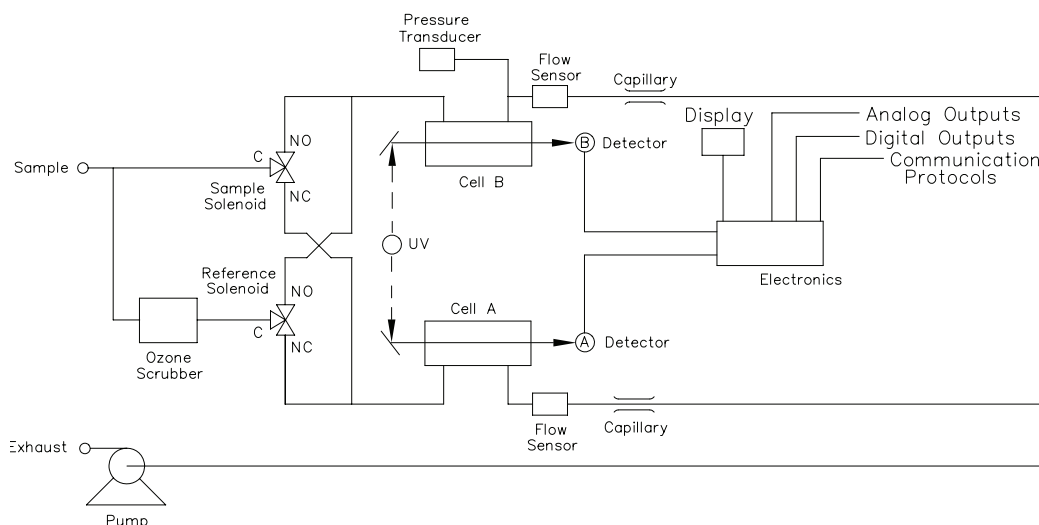

Figure 1-1. Model 49*i* Flow Schematic
The sample is drawn into the Model 49*i* through the *sample* bulkhead and is split into two gas streams, as shown in Figure 1-1. One gas stream flows through an ozone scrubber to become the reference gas (I_o). The reference gas then flows to the reference solenoid valve. The sample gas (I) flows directly to the sample solenoid valve. The solenoid valves alternate the reference and sample gas streams between cells A and B every 10 seconds. When cell A contains reference gas, cell B contains sample gas and vice versa.